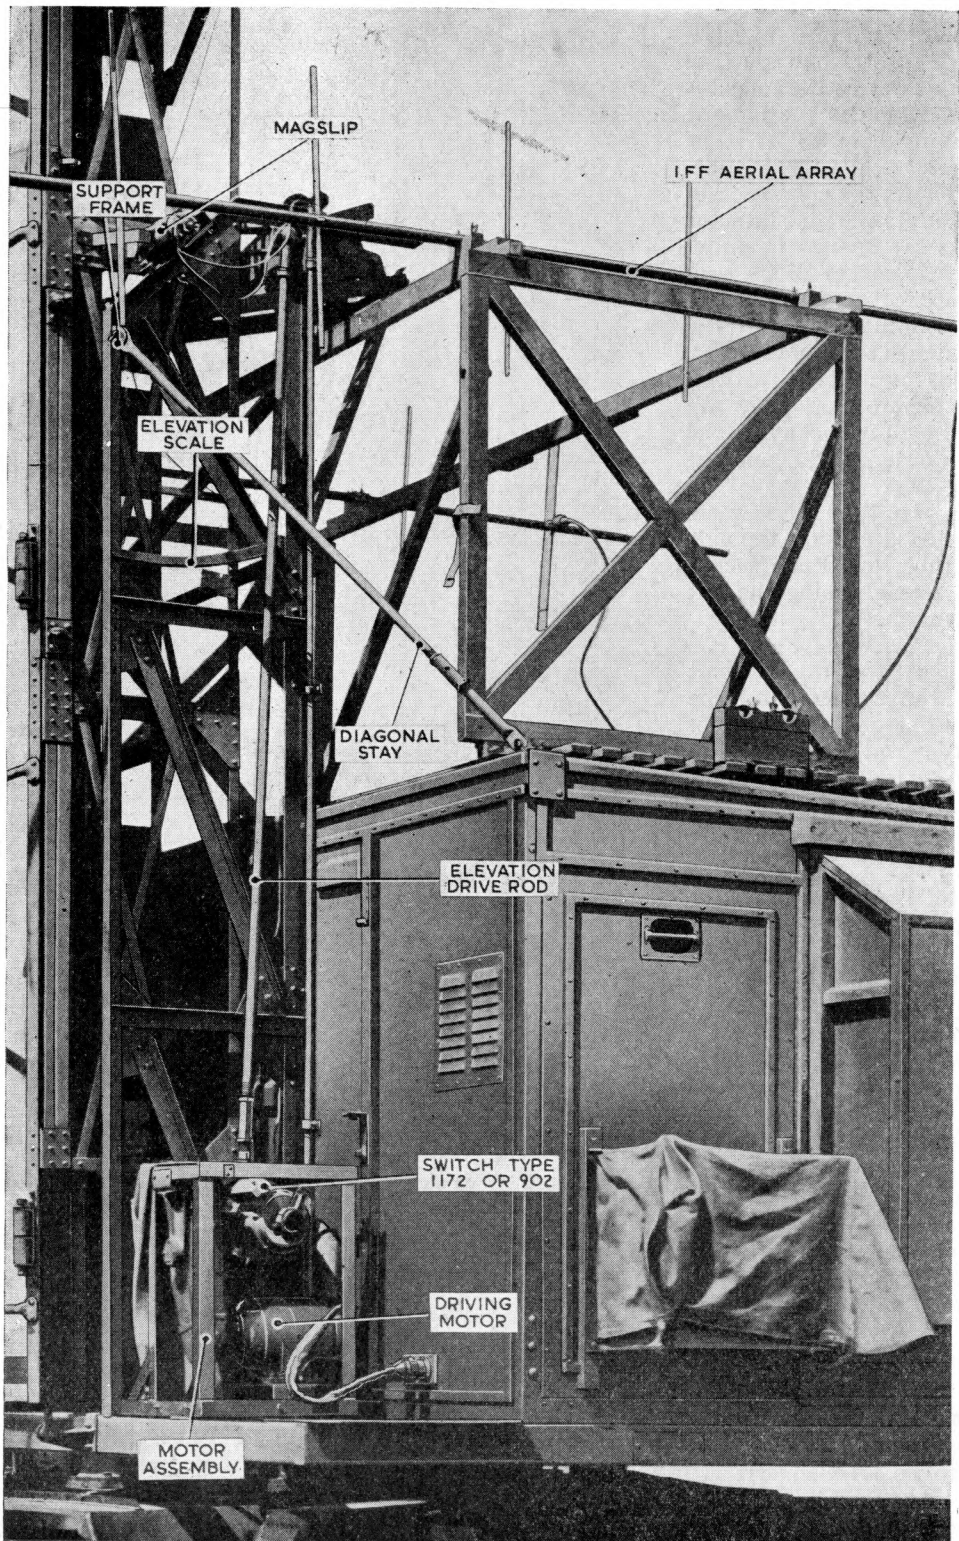
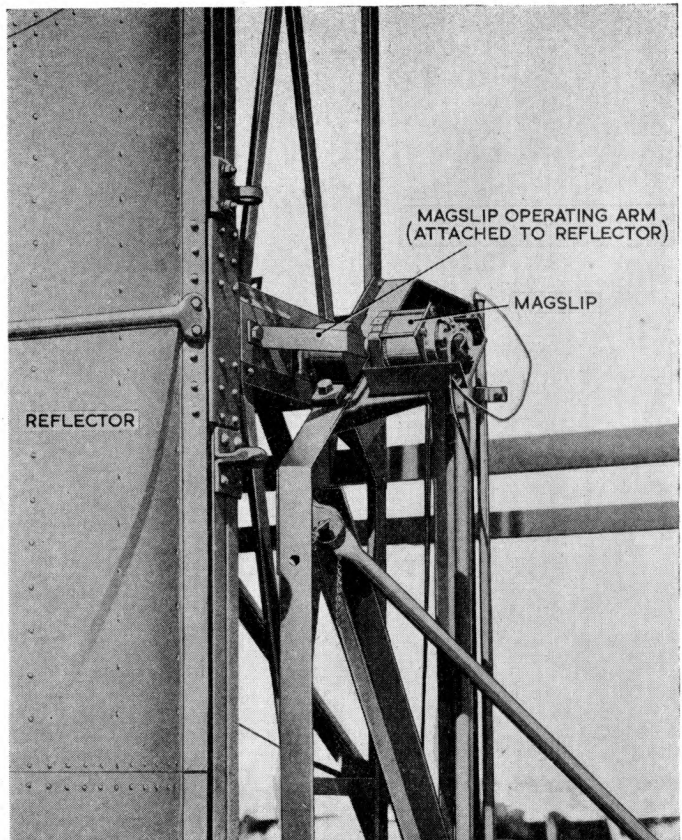

Fig. 33. R.V.461C : elevation drive mechanism
Fig. 34. R.V.461C : magslip assembly
- (1) Fit the magslip beneath the right-hand pivot bearing as seen from the front.
- (2) Connect the two Uniradio connectors between X and Y and between A1 and A2. Plug the cable into the left-hand 5-pin Niphan socket (fig. 33). The radiation meter lead is not used.
- (3) Fit the magslip operating arm (fig. 34).
- (4) Remove the erection hinge pins so that the bottom of the reflector is free.
- (5) Remove the motor assembly from its transit position and bolt it into the position shown in fig. 33.
- (6) Fit the elevation drive shaft between the motor drive shaft and the reflector.
- (7) Connect the cable to the right-hand Niphan socket (fig. 33).